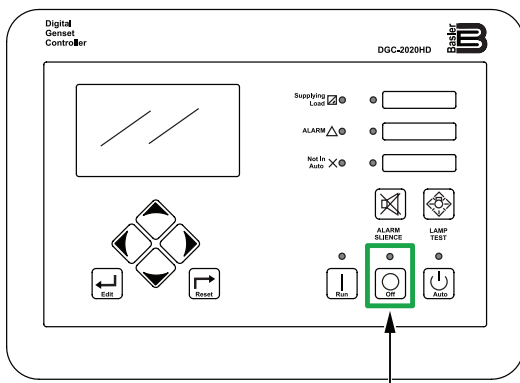

Figure 12. Digital Controller (OFF Button)
3. Press the **OFF button** on the digital controller (Figure 12) to stop the engine. The engine will stop after a 1-minute cool-down process.
2. Press the **OFF button** on the digital controller (Figure 12).
2. After the engine has completely stopped, press the **OFF button** on the digital controller (Figure 12) and place the **Control Power switch** in the **OFF** position (Figure 13).